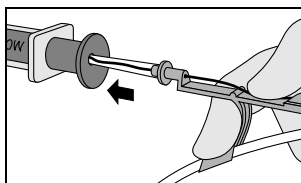

Fig. 3
2. Place tip of Arrow Advancer™ – with "J" retracted – into hole in rear of Arrow® Raulerson Syringe plunger (refer to Fig. 3).